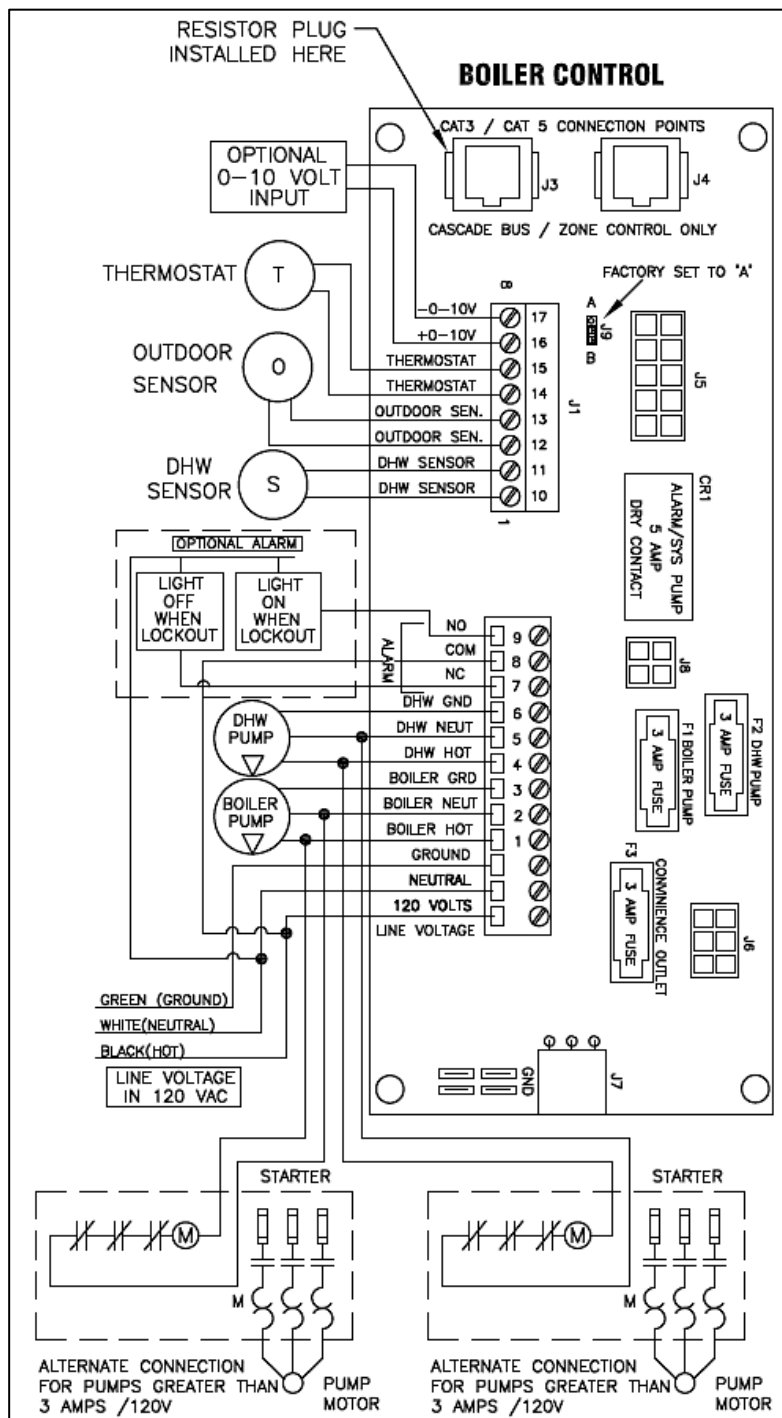

Figure 29 – Boiler Control
NOTE: A termination plug is included in the CAT 3 / CAT 5 Bus Connection Point, labeled J3 in Figure 29. DO NOT REMOVE THIS PLUG! Doing so will affect boiler operation and void warranty.
1. Connect the incoming power wiring to the line voltage terminal strip in the electrical junction box at terminals 120V, Neutral, Ground (shown in Figure 29).
3. Connect the boiler pump as shown in Figure 29 to the terminals marked 1 – (HOT), 2 – (NEUT), and 3 – (GND). The connections shown are suitable for a maximum continuous pump draw of 3 amps at 120 volts. If the pump requires more current or voltage than the 120 volts supplied, an external motor starter or contactor will be required.
The control includes a dry contact alarm output. This is an SPDT circuit, rated at 5 amps at 120 volts. This contact can be used to activate an alarm light or bell or notify a building management system if the boiler goes into a lockout condition. The circuit between the ALARM COM and NC terminals is closed during normal operation and the circuit between ALARM COM and NO is open during normal operation. The connections depicted in Figure 29 show two 120 volt lights connected to the alarm terminals. One light will be on when the boiler is in normal mode and the other light will be on when the boiler is in lockout mode.
1. Connect the room thermostat to the terminals marked THERMOSTAT in the electrical junction box (see Figure 29). Alternately, any dry contact closure across these terminals will cause the boiler to run. Take caution to ensure neither of the terminals becomes connected to ground.